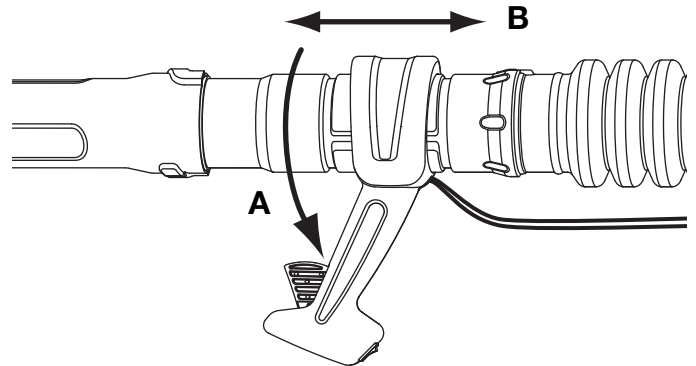

Fig. 8
1. Rotate the throttle grip counterclockwise around the blower tube until it is pointing directly downward (Fig. 8, A).
2. Pull or push the throttle grip along the handle tube until its distance from the backpack blower is comfortable (Fig. 8, B).